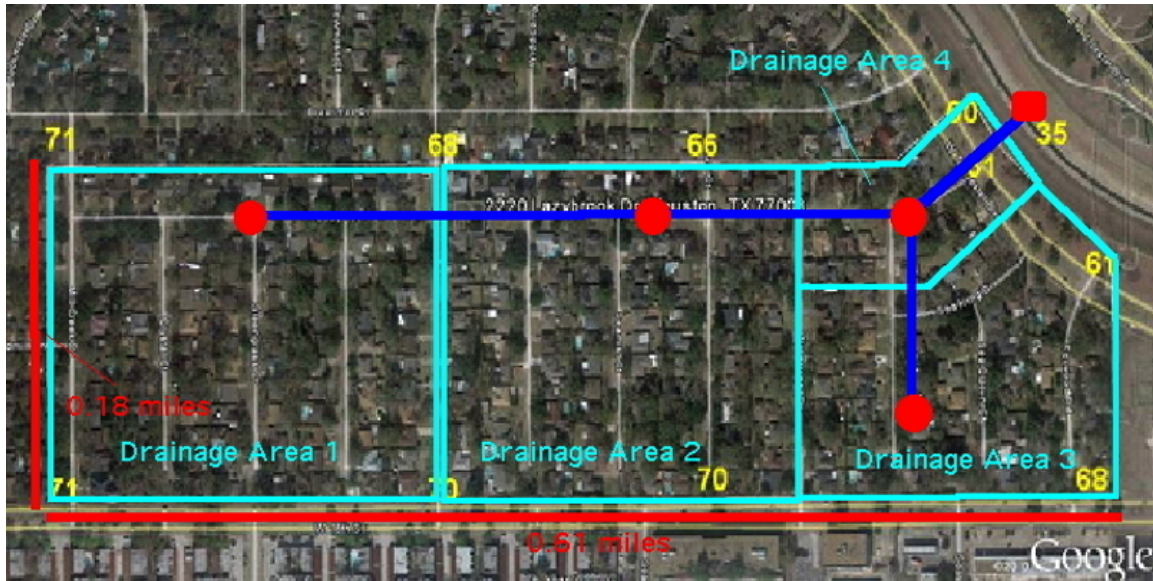

Figure 10: Drainage System Layout
21. (140 points) Consider the drainage area depicted in Figure 10.
Table 6: Hydrologic data for each drainage area in Figure 10
Table 7: Elevation data for each junction in Figure 10
The red dots on Figure 10 are inlets to the storm sewer system (indicated by the blue pipes). The red rectangle (on the East side of the figure) is a stormwater outfall. Table 7 lists the invert elevations, and land surface elevations of these points.
Table 8: Design Storm for Drainage System in Figure 10
The blue line segments on Figure 10 are pipes that comprise the storm sewer system. Table 9 lists the proposed design (i.e. pipe lengths, diameters, connection(s), and offsets) for the storm sewer.
Table 9: Hydraulic data for each pipe in Figure 10